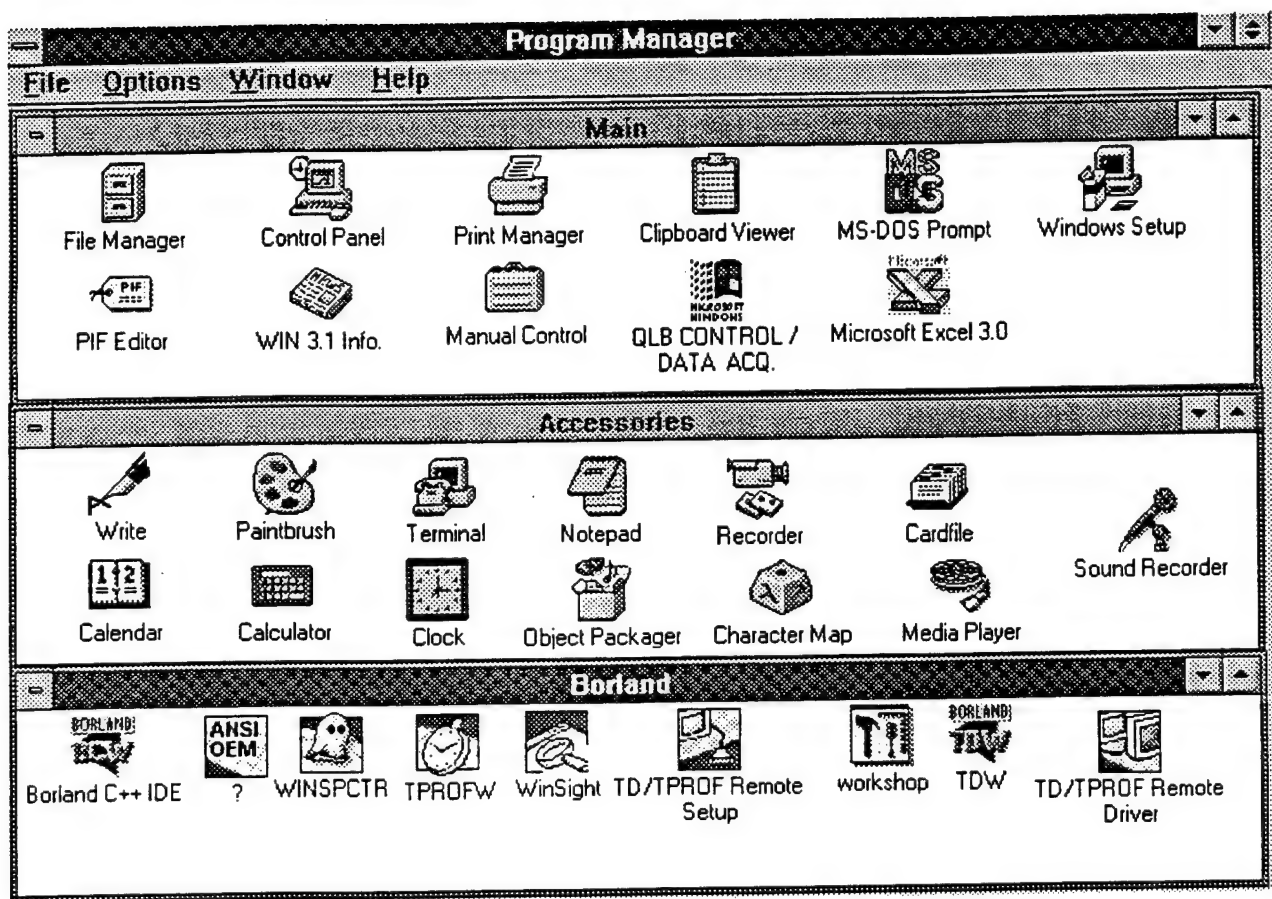
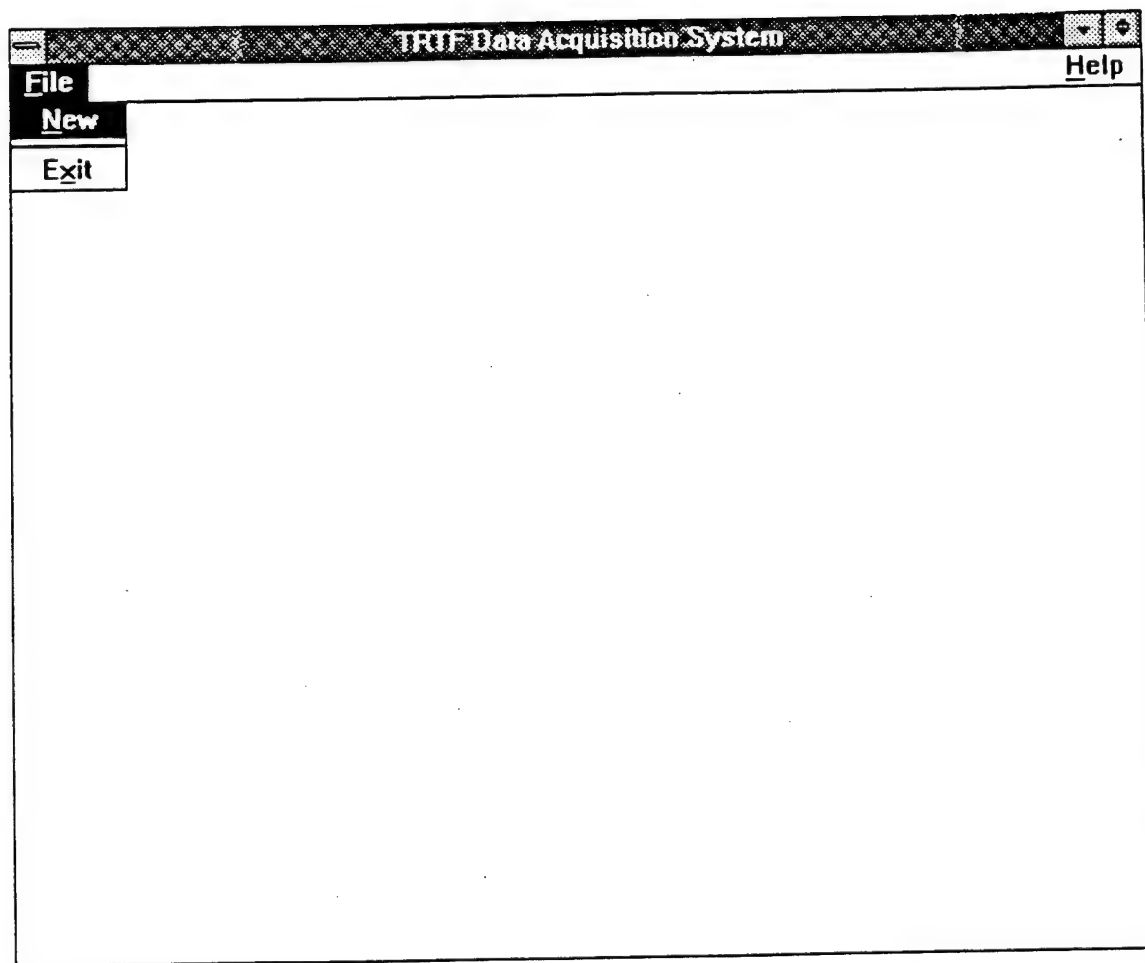

Figure 3-1. Main Menu - QLB CONTROL/DATA ACQ.
Figure 3-2. File.
1. Position arrow cursor to QLB CONTROL/DATA ACQ. in MAIN menu (Figure 3-1) and execute double click. Figure 3-2 will appear.